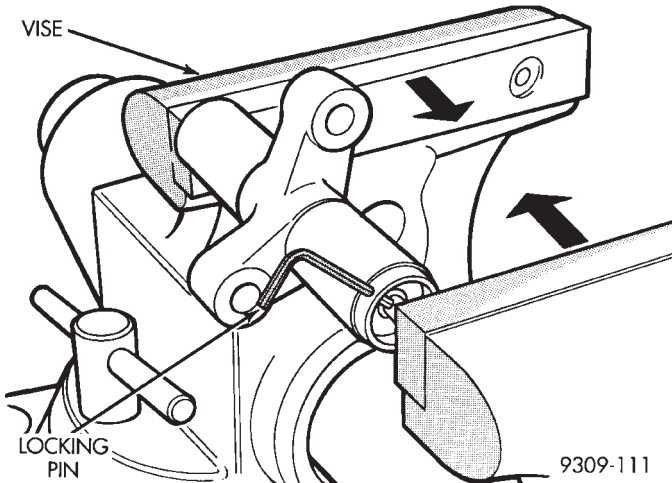

Fig. 47 Compressing Timing Belt Tensioner
(4) Preload the tensioner with a vise and install locking pin (Fig. 47).